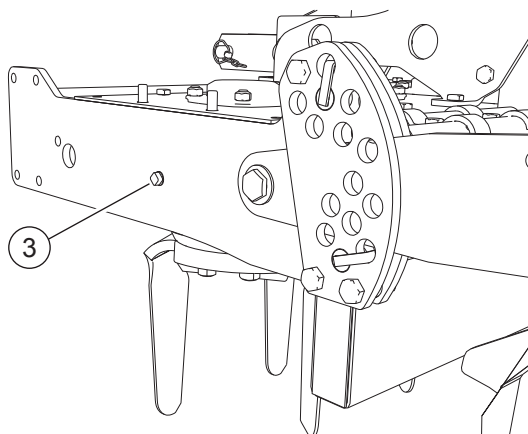

FIG. 42
- Place a basin under the oil drain plug (3, “Fig. 42”).